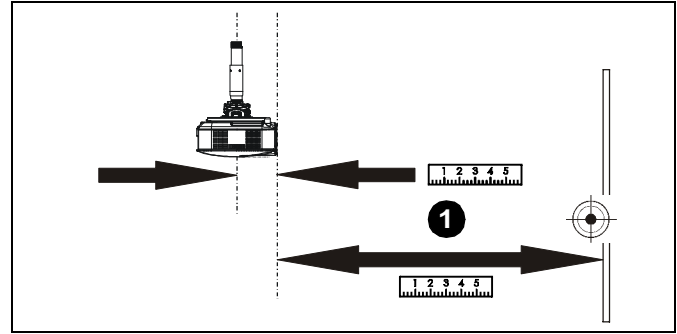

Figure 2
1. Select the best mounting location based upon the following items (See Figure 2):